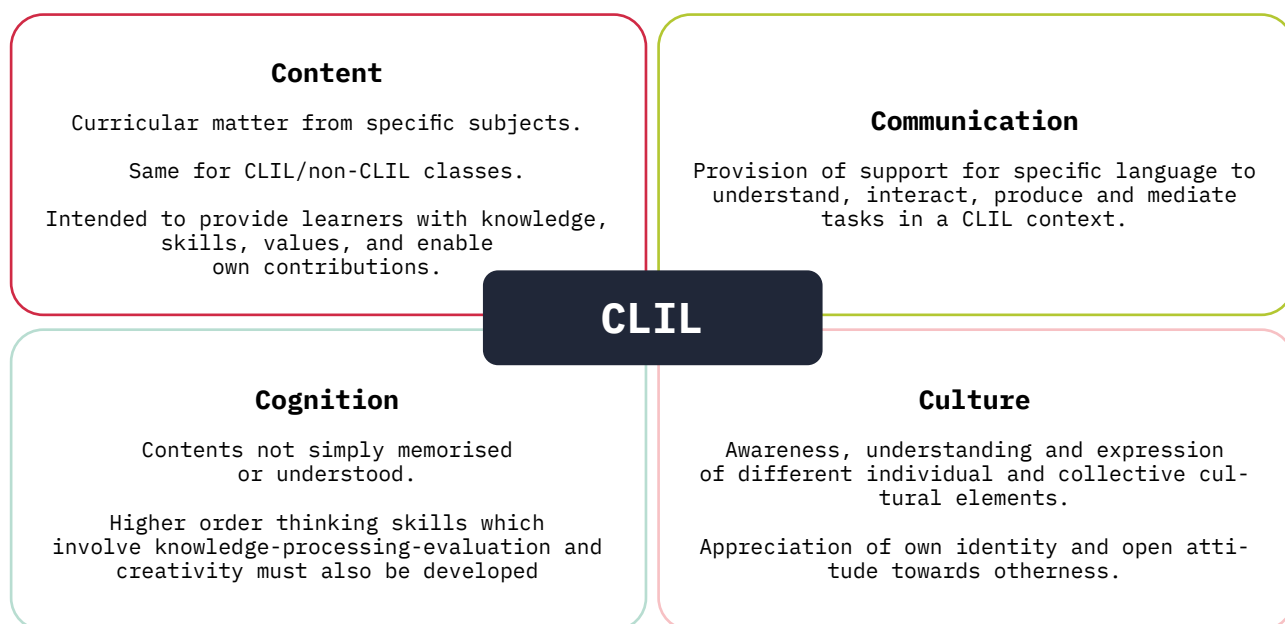
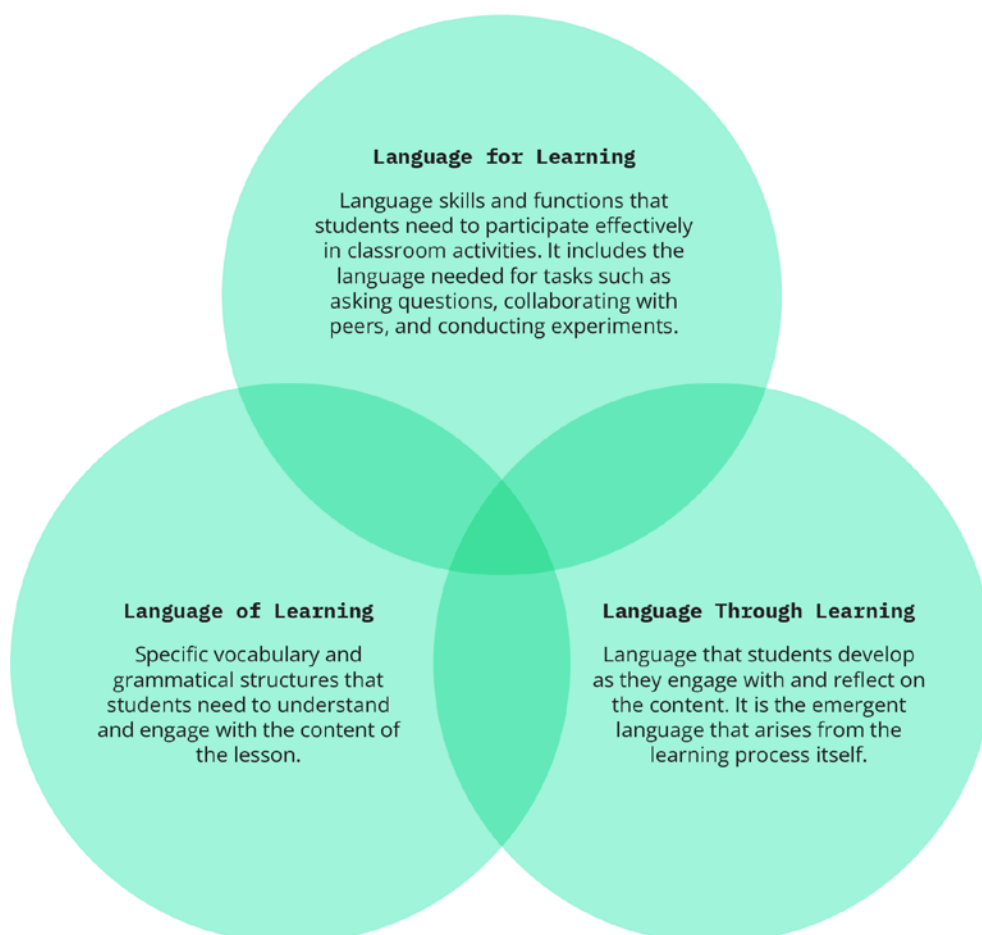

Figure 1
Figure 2
- b. CLIL (Content and Language Integrated Learning): CLIL means teaching subject content through a foreign language. The goal is not just to learn the language, but to use it as a tool to understand and communicate ideas. From this approach, students achieve an optimal level of cultural understanding, linguistic diversity is considered, and it is an attempt to overcome the limitations of traditional teaching by integrating the curriculum. According to Coyle et al. (2010), one of the most basic considerations is that there should be a balanced treatment among four key areas, which are: a) content, b) communication, c) cognition, and d) culture (see Figure 1). In PROMISED, students build subject knowledge while developing their communication skills through what is known as the language triptych, which includes language for learning, language of learning, and language through learning (see Figure 2).